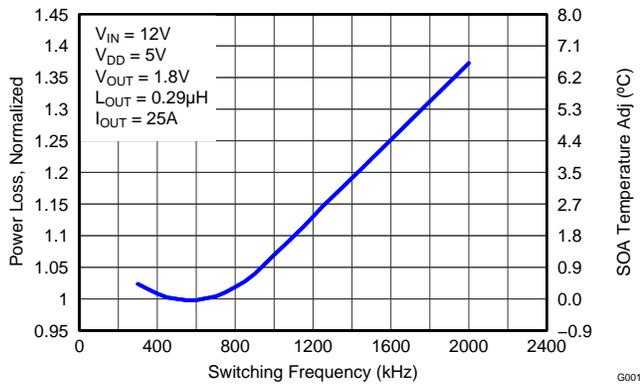

Figure 7. Normalized Power Loss vs Frequency
- Normalized Power Loss for switching frequency \approx 1.02 (Figure 7)
- SOA adjustment for switching frequency \approx 0.3°C (Figure 7)